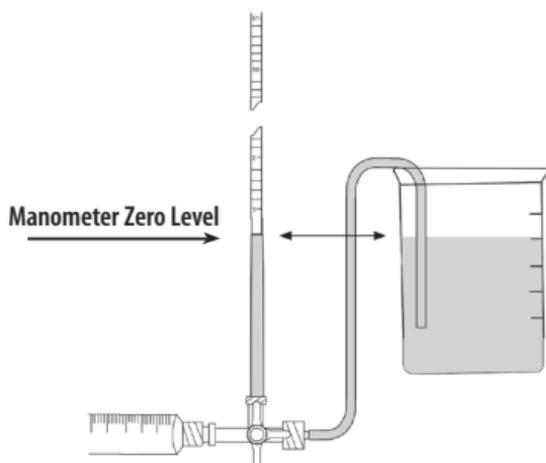

Figure A-5
- Adjust the manometer height so that the zero level of the manometer and the fluid level in the water bath are at the same level (Figure A-5).
- Allow the water column in the manometer to fall. The water column should stop at the zero level of the manometer (Figure A-5).